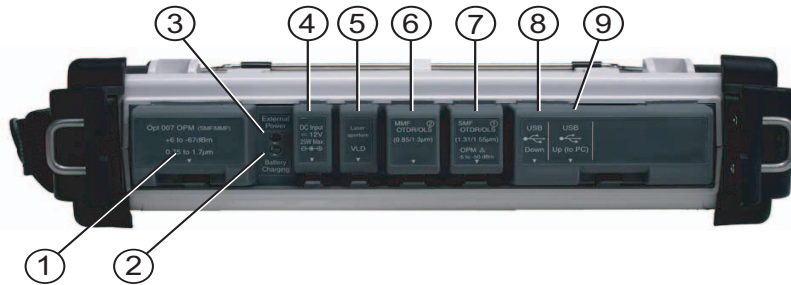

Figure 2-3: MT9083 Series— Top Panel
Figure 2-3 provides an example of a typical unit's top panel.
1. Attach the jack from the AC charger/adapter to the DC input located on the top connector panel of the MT9083 Series (see Figure 2-3 on page 2-10).
2. Attach the jack from the AC charger/adapter to the DC input located on the top connector panel of the MT9083 Series (see Figure 2-3 on page 2-10).
4. Insert the plug from the AC line cord into an AC outlet; high-speed charging starts. The Battery Charging indicator lamp (see item 2 in Figure 2-3 on page 2-10) is illuminated while the battery pack is charging.
The measurement ports on the MT9083 Series are located on the top panel of the unit (see items 6 and 7 in Figure 2-3 on page 2-10). Depending on the model of the MT9083 Series, there are either one or two measurement ports. The measurement port to which a fiber is connected depends on the test application and the wavelength to be measured. The MT9083 Series can also be equipped with an optional Visual Fault Locator, accessed via the VLD port.